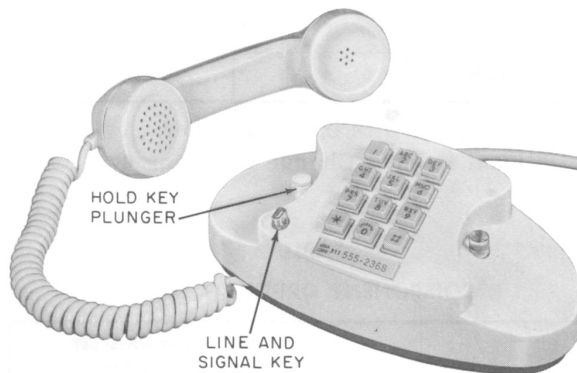

Fig. 2—2713B Telephone Set
2.02 The 2713B telephone set (Fig. 2) is equipped with 2-line pickup, hold on both lines (CO—nonkey system).
- **Line and signal key:** 2713B set—permits line selection by turning, signaling by depressing (Fig. 2 and 5).
- **Hold key plunger:** 2713B set—provides for mechanical hold on either nonselected CO line (Fig. 2).